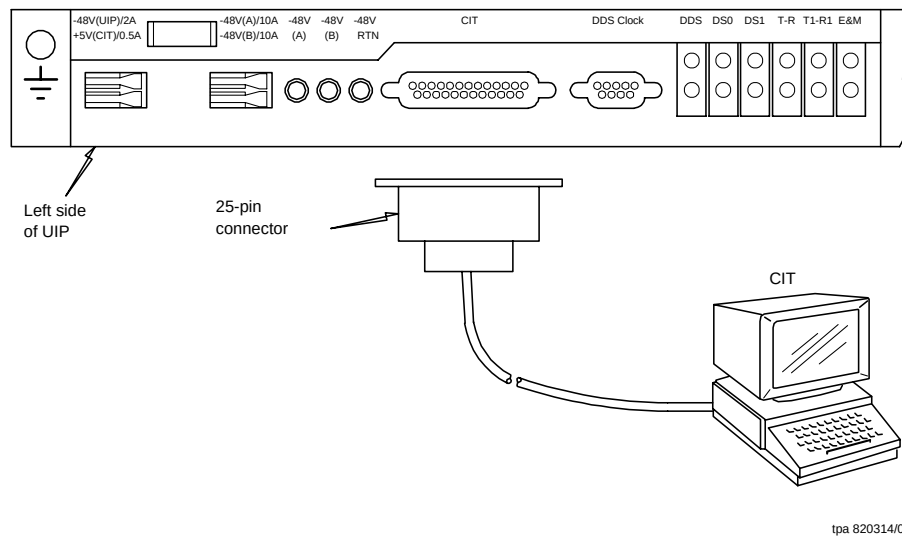

Figure 1 – Typical Craft Interface Terminal (CIT)
2. Press the cover of the UIP to gain access to the CIT port. Connect CIT terminal to **CIT** port by connecting one end of an RS-232 cable to the **COM1** port of the CIT (use a 9-pin to 25-pin converter, if necessary) and the other end of the cable to the user interface panel (UIP) **CIT** port (see Figure 1).